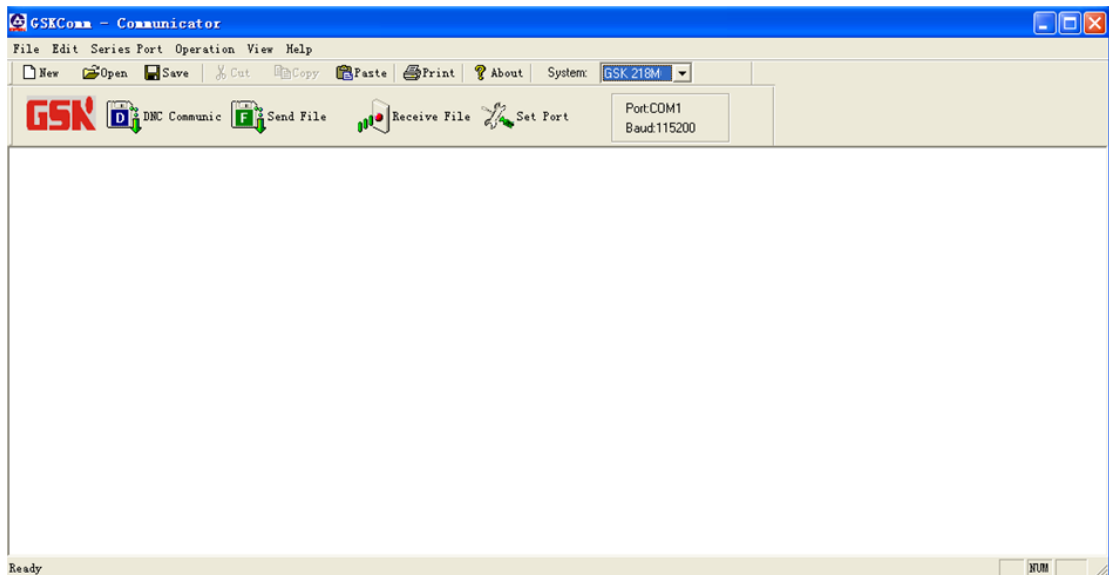

Fig.1-1-1-1
- 2) Open and set the serial port, as fig.1-1-1-1 shown, select GSK218 system, the default DNC baudrate is 38400, which can be reset by the parameter (refer to GSK218M Operation Manual). The data bit has 8, stop bit has 0, and there is no parity check.